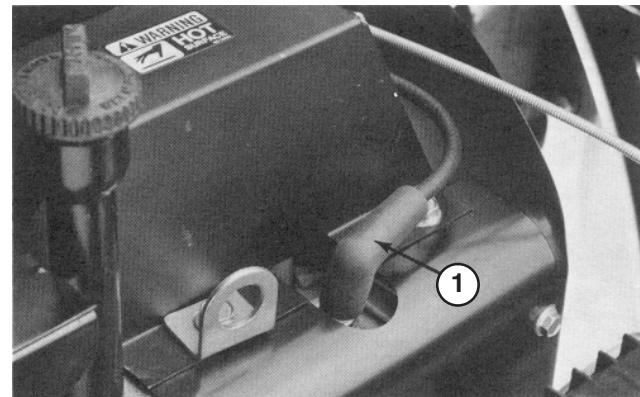

Figure 27
2. Clean the area around the spark plugs (Fig. 27) so that dirt does not fall into the cylinder when the plugs are removed.